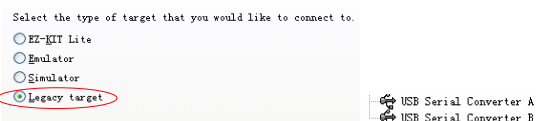

Figure 8.1 (a)Emlink target selection for VDSP++ Session (b)Emlink device
* check if there is 'USB Serial Converter A/B' device under the list. if there is ? or ! on them, please re-install EmlinkforVdsp++.exe again, and restart your windows once after finished the installation, until there is no '?' or '!' on them. And the correct status of these device show as figure 8.1(b).